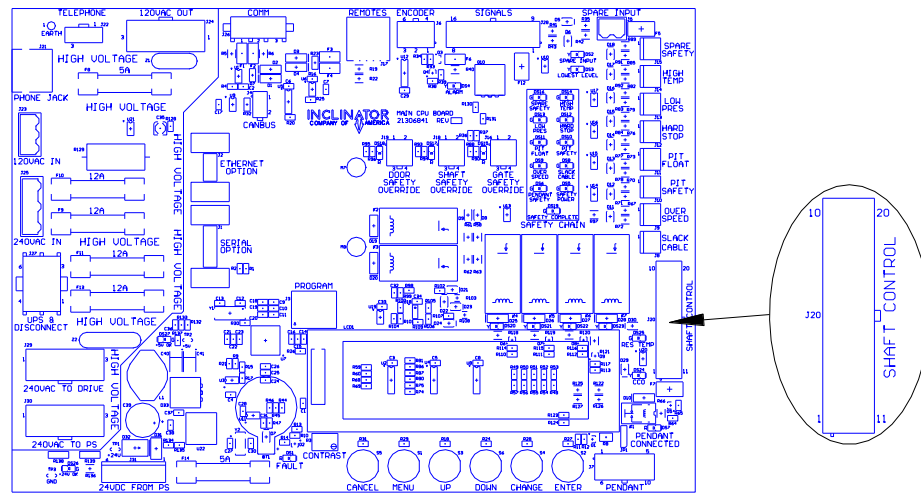

Figure 11 - CPU Board, Motor Control Enclosure Signal Cable Connections
3. Connect the Motor Control Signal Cable connector to J20-"Shaft Control" on the CPU board. See Figure 11.
5. Route the wires up the right side of the enclosure and over the top of the UPS as shown in Figure 11.